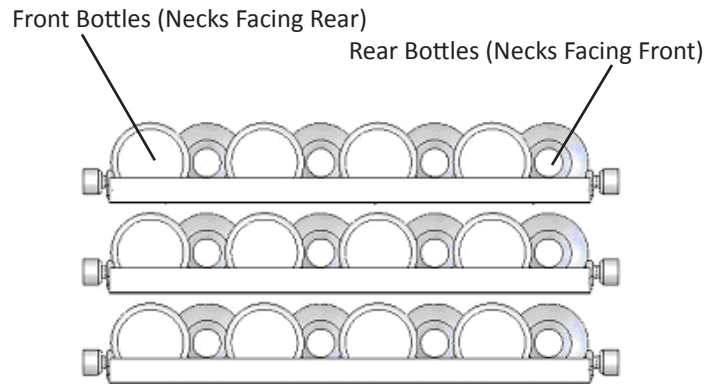

Figure 17
The four (4) pull-out shelves each hold eight (8) bottles. See Figure 17 for typical wine bottle spacing. Care should be taken when storing extra tall bottles in the wine cradle at the bottom of the compartment because they may prevent the door from closing.